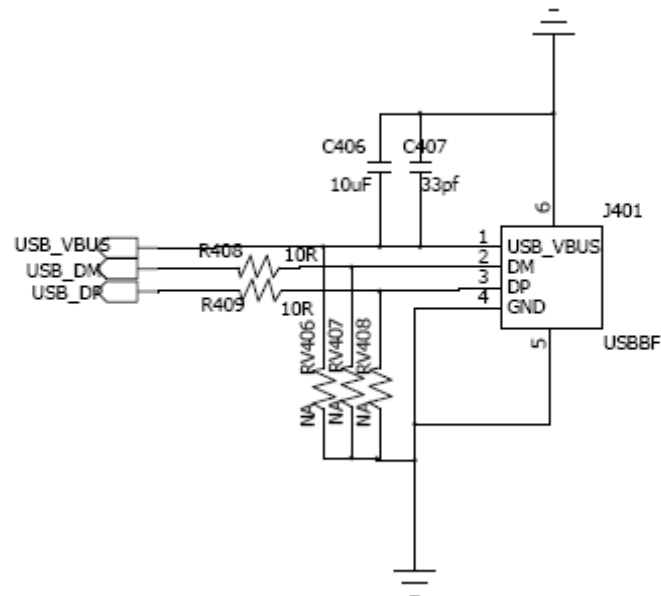

Figure 2-7 The reference circuit of USB interface
The reference circuit of USB interface is shown in Figure 2-7 below.
- 2) To reduce the reflection caused by the high frequency alternating signal in the transmission, it is recommended to add a resistor with value below $10\ \Omega$ to the DM and DP in USB interface to ensure correct transmission for USB data. Just like the resistors R408 and R409 in Figure 2-7.